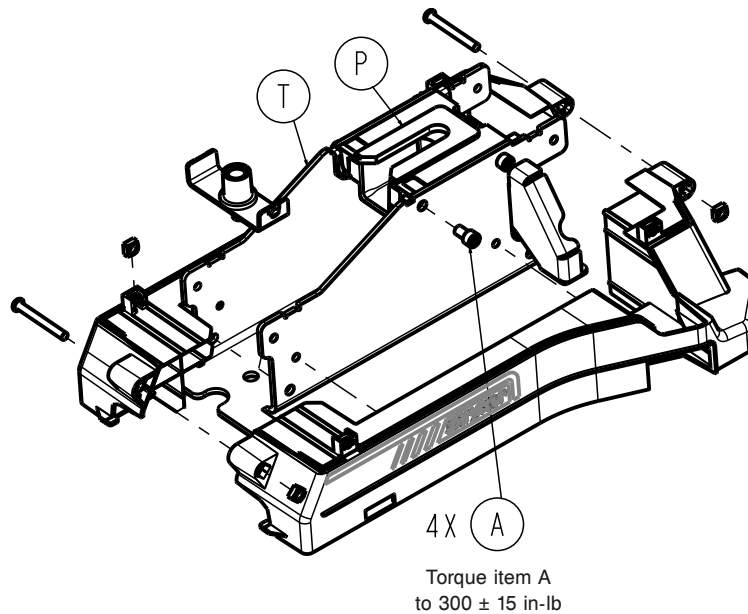

Figure 2 – Replacing the head end interface assembly
2. Using a 1/4" hex wrench, remove and save the four screws (A) that secure the head end interface assembly (P) to the head end weldment (T) (Figure 2).
**Note** - Torque item (A) to 300 in-lb.